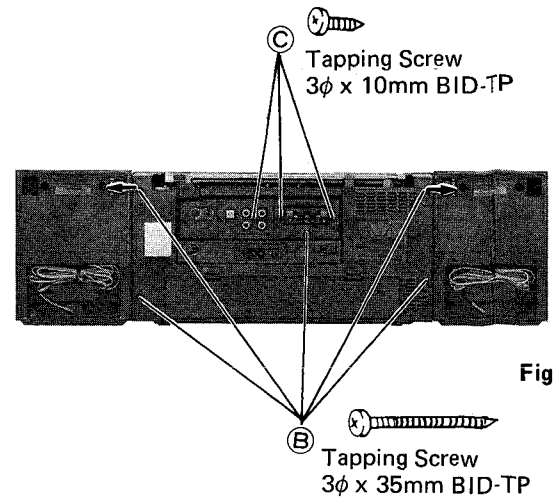

Figure 4
1. Lift up speaker box while pushing joint on back of the speaker box to the direction shown by arrow, and the speaker box will be removed. (Figure 4)
2. Put cabinet with back side up and remove five screws (B) and three screws (C). (Figure 4)